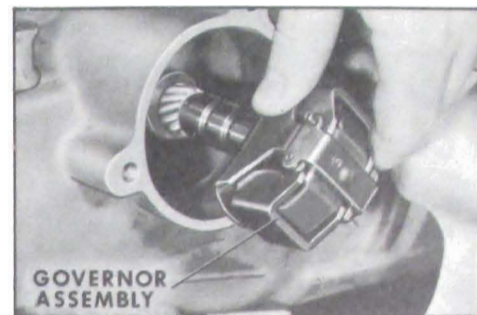

Figure 5-141
2. With a twisting motion slide governor assembly out of its bore in case. See Figure 5-141.